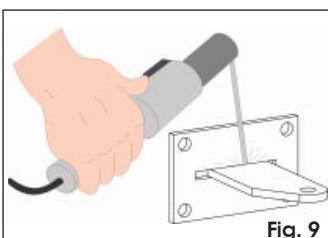

Fig. 9
- Weld the rear bracket to the plate and screw it on, inserting it in the slot (Fig. 9).